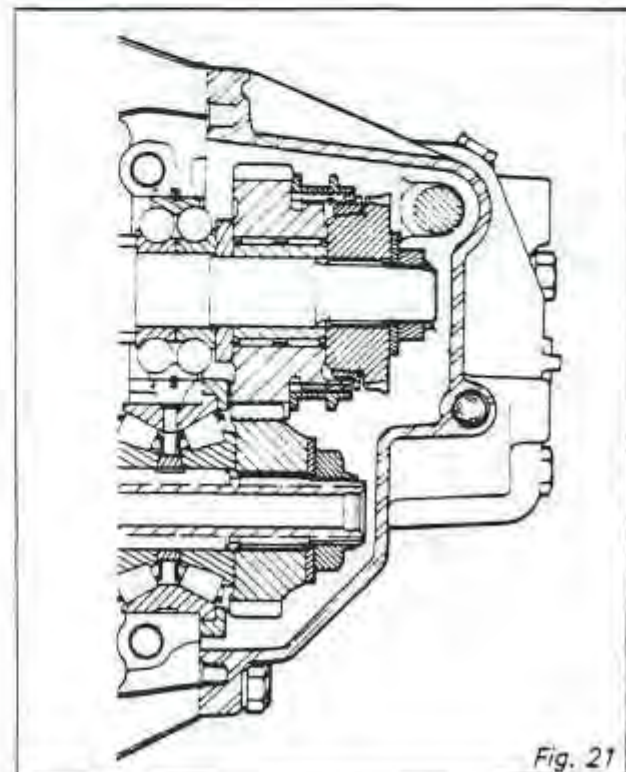

Fig. 21
24. Select two (2) speeds to lock the transmission from turning and torque the new primary and secondary shaft nuts. Stake the nuts to the shafts using a suitable soft nosed punch.
25. Place the shift rods in the neutral position (all rod notches aligned) and install the pivoting interlock. (Fig. 21)